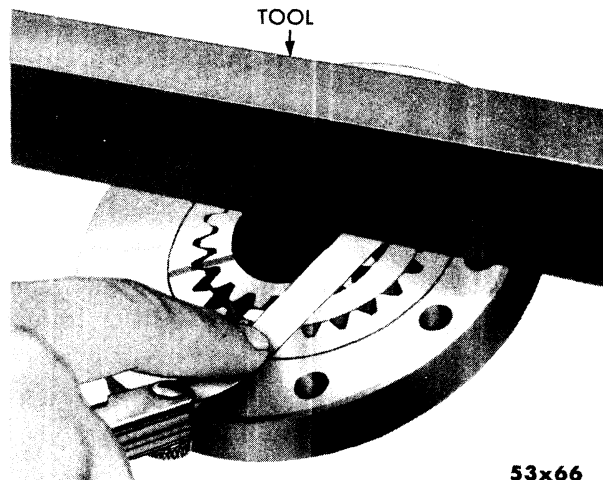

Fig. 65—Checking Clearance Between Pump Body and Gears Using Tool C-3355
- (10) Using Tool C-3335 and feeler gauge, check clearance between pump housing face and face of gears, as shown in Figure 65. Clearance limits are .001 to .003 inch.